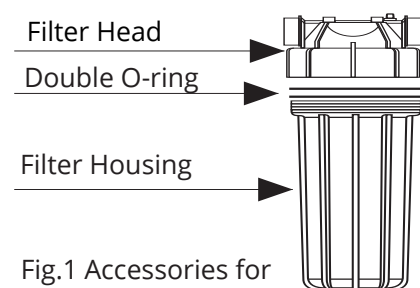

Fig.1 Accessories for
- Unscrew filter head from the filter housing (Fig. 1) using a wrench. To prevent damage, hold the wrench exactly in horizontal position relative to the filter housing.